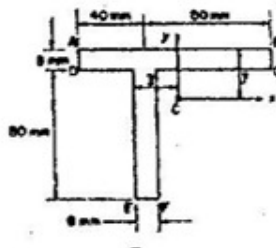

Fig. Q. 11 (b)
- (b) A beam having the cross-section shown in Fig. Q. 11 (b) is subjected to a bending moment of 1500 N m in a vertical plane. Calculate the maximum direct stress due to bending and indicate the point at which it acts.